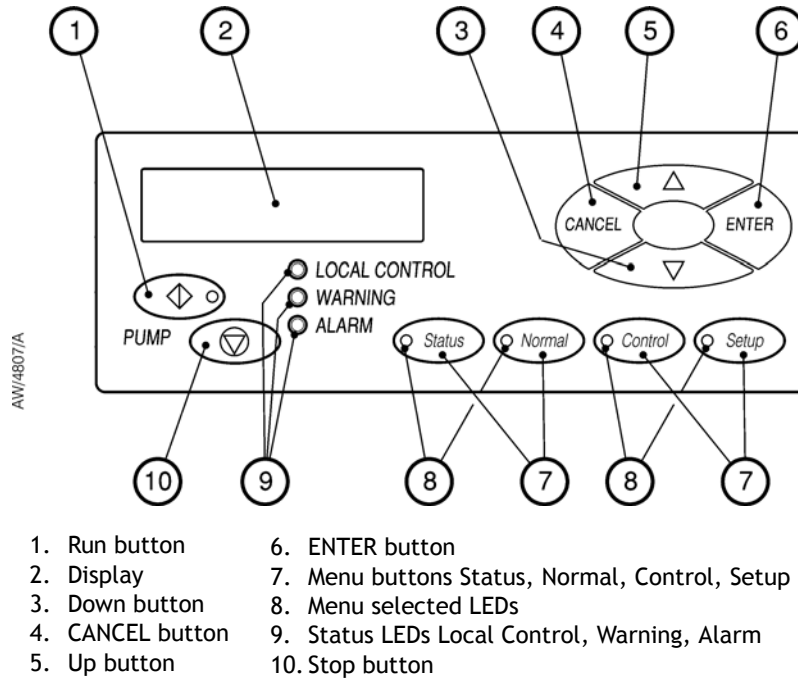

Figure 7 - End User Controller (EUC) display
The End User Controller (EUC) allows manual control of the EPX pump and also displays the pump status. Refer to Figure 7 which shows the front panel of the EUC display.
Use the run button (Figure 7, item 1) to start the EPX pump. The run button has an LED which is on when the EPX pump is running. Use the stop button (Figure 7, item 10) to stop the pump.
The display (Figure 7, item 2) shows two lines of text; each line is 16 characters long. In normal operation, the Normal display is shown; the Normal display has two pages, and each has two lines. Each page of the Normal display shows the status of one or more EPX EUC sensors or internal clocks and counters. As supplied, the first page of Normal display shows the pump serial number and pump current. It is possible to change the information shown on the Normal display.
At any time, press one of the four menu buttons (Figure 7, item 7) to select a new menu. Then use the up (Figure 7, item 5), down (Figure 7, item 3), ENTER (Figure 7, item 6) and CANCEL (Figure 7, item 4) buttons to move through the menu. The appropriate menu selected LED (Figure 7, item 8) is on when the corresponding menu is in use.
Use the menu (Figure 7, item 7), up (Figure 7, item 5), down (Figure 7, item 3), CANCEL (Figure 7, item 4) and ENTER (Figure 7, item 6) buttons as described below. Refer to Section 4 for a full definition of the menu structures and the display formats.
The status LEDs (Figure 7, item 9) show the current status of the EPX system.